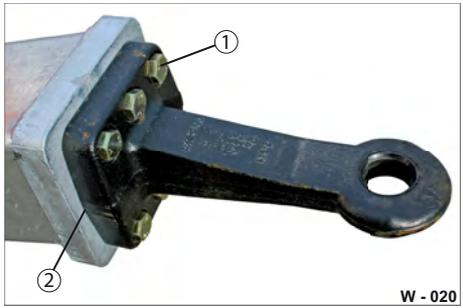

Fig. 20 Towing eye connection
- ▶ Re-tighten the bolts (Fig. 20/1) in crosswise sequence.